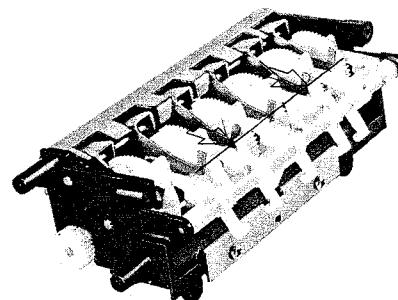

Fig. 17
4) Confirm that the assembly will not move even if the lever (gear stopper) is pressed. (See figure 17)